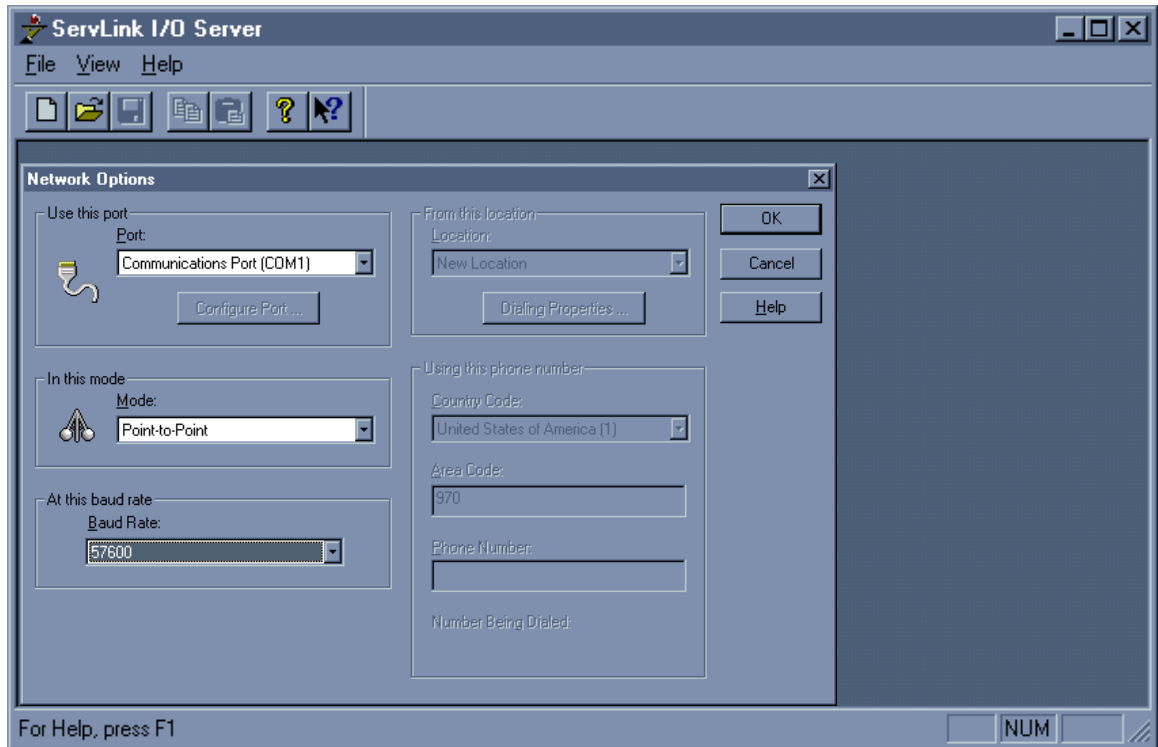

Figure 4-1. Servlink Screen
2. Start Servlink on your PC, and select the port your PC is using and the baud rate. Mode: is "Point-to-Point". See Figure 4-1.